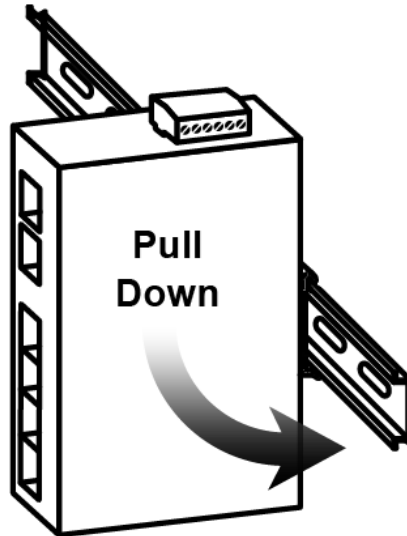

Figure 3.3: Stable the Media Converter on DIN-Rail
Step 4. Lightly pull down the bracket on to the rail as shown below in Figure 3.3.